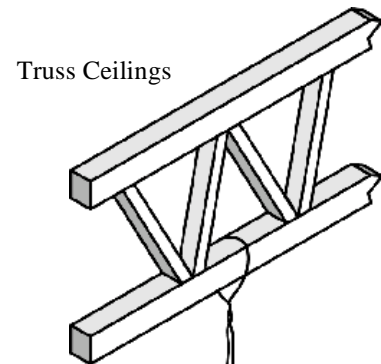

Figure 6. Truss Anchoring
- **Truss Ceiling.** Attach the tie wire to the turnbuckle and loop its upper end around the ceiling truss. Pull the tie wire tight and twist it around itself at least four times. No additional anchor is required (see Figure 6).